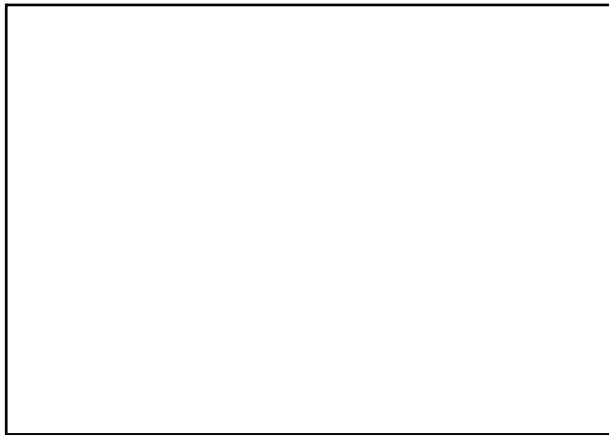

Fig. 3
- Unscrew battery holder (arrows, Fig. 3).